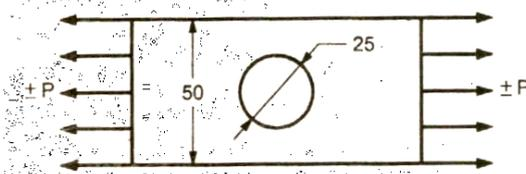

Fig. No. 4.b
- b) A plate made of plain carbon steel 20C8 ($S_{ut} = 440 \text{ N / mm}^2$) is shown in fig. no 4.b. The theoretical stress concentration factor and notch sensitivity are 2.50 and 0.8 respectively. The surface finish factor, size factor and reliability are 0.67, 0.85 and 0.897 respectively. The plate thickness is 30 mm. If the required factor of safety is 2.0, Determine the maximum completely reversed axial force can take for infinite life. Take $K_e = 1.0$ and axial force subjected on the plate at temperature 20°C. [06]